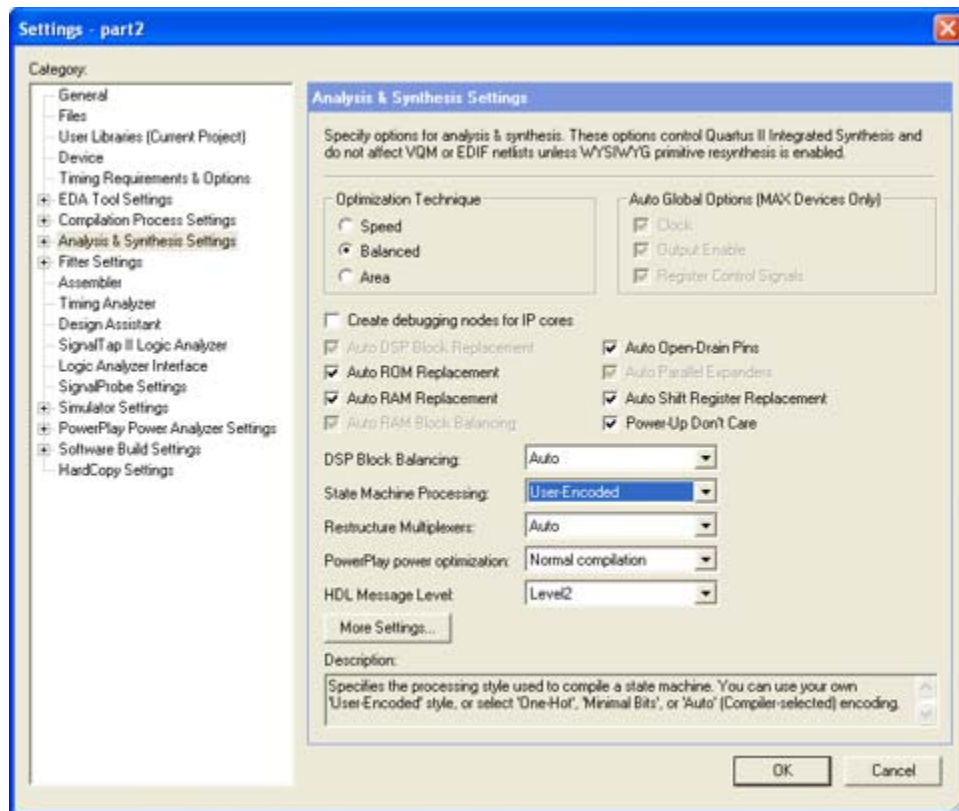

Figure 4. Specifying the state assignment method in Quartus II.
3. Before compiling your code it is necessary to explicitly tell the Synthesis tool in Quartus II that you wish to have the finite state machine implemented using the state assignment specified in your Verilog code. If you do not explicitly give this setting to Quartus II, the Synthesis tool will automatically use a state assignment of its own choosing, and it will ignore the state codes specified in your Verilog code. To make this setting, choose **Assignments > Settings** in Quartus II, and then click on the **Analysis and Synthesis** item on the left side of the window. As indicated in Figure 4, change the parameter **State Machine Processing** to the setting **User-Encoded**.